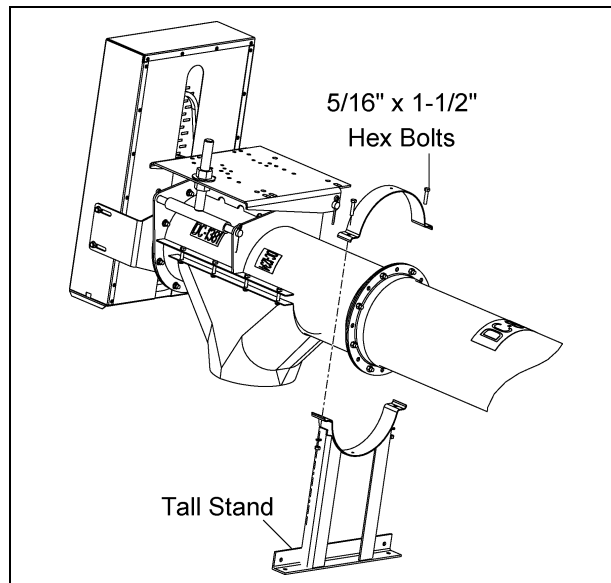

Figure 4S
- A. Attach the tallest stand on the motor mount side of the connecting flange. It is necessary to place the stand on the motor mount side of the flange to help support the weight of the motor. *(See Figure 4S)*